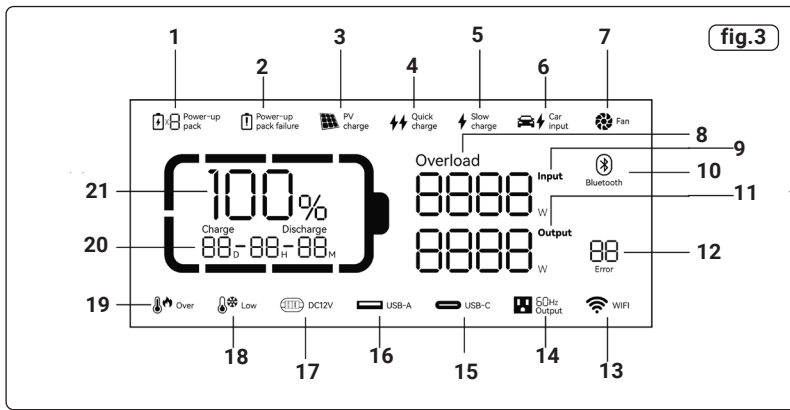

Figure 3 Key
- When this product has not been interacted with for 5 minutes without any operation, the LCD display (fig.3) will be automatically extinguished.